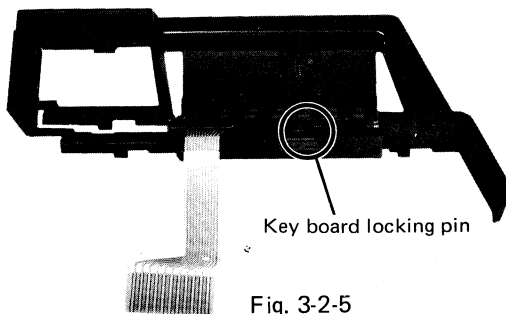

Fig. 3-2-5
- Remove the key board (B) locking pin. (Fig. 3-2-5)